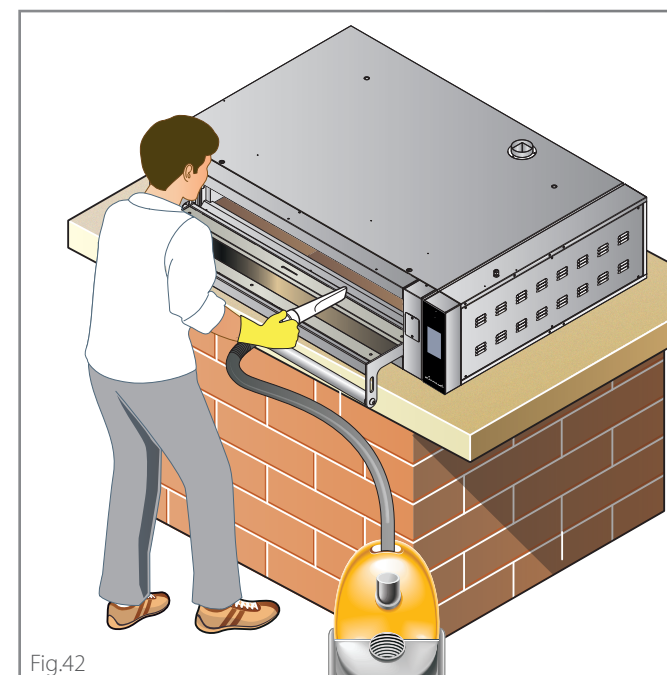

Fig.42
- ① Touch the **ON/OFF**  key (if the oven is off);
- ② touch the **PYROLYSIS** key;
- ③ confirm pressing **OK**: the heating of the cooking chamber starts until the temperature of 400 °C - 752 °F is reached, when the function stops and the oven switches off automatically without you needing to do anything. To block the function early, press the pyrolysis key again or turn the oven off with the **ON/OFF** key ;
- ④ in a cold oven, clean the chamber from the crystallized food residues using a natural fibre brush and then vacuum with an ash extraction bin ► Fig.42